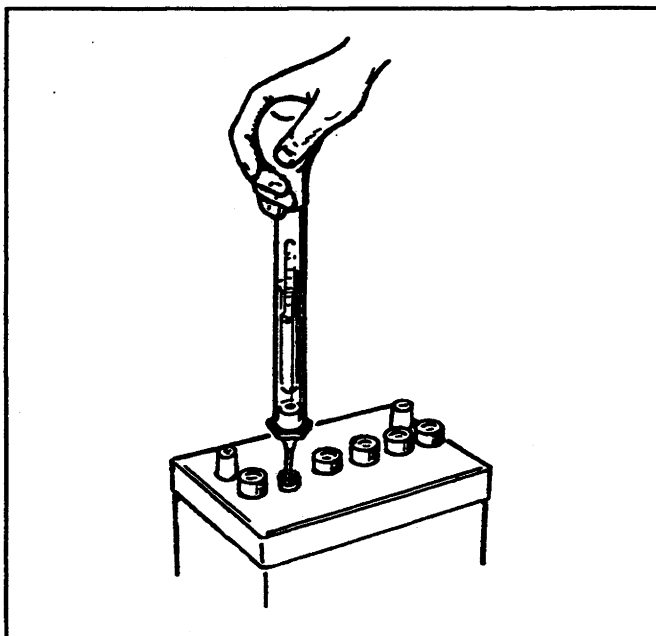

FIGURE 9. BATTERY CHECK WITH HYDROMETER
6. Use a battery hydrometer to check the specific gravity of the electrolyte in each battery cell (Figure 9). Charge the battery if the specific gravity measures less than 1.215. Do not overcharge the battery. Stop charging the battery when the electrolyte specific gravity reaches 1.260, at approximately 80° F (27° C).